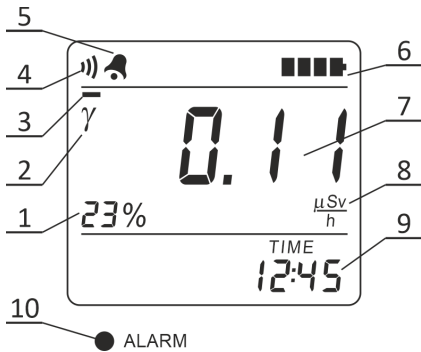

Figure 2.1 – LCD of the radiometer
Irrespective of the chosen operating mode, the radiometer carries out a non-stop control of batteries status. The results of control are displayed on the LCD with a battery status symbol  (6) (Figure 2.1), which consists of four segments.
2.3.3.6.5 The following information is displayed on the LCD of the radiometer (Figure 2.1):
- estimated limit of the expected relative statistical deviations (1) of the measurement result (7) with a confidence probability of 0.95, hereinafter - the estimated limit of statistical deviations;
- "γ" symbol (2) – an indication of the measured radiation type;
- instantaneous value indicator of the radiation intensity (3);
- sound symbol (4) (if audio signaling of detected gamma quanta is switched on);
- alarm clock symbol (5) (if the alarm clock is on);
- battery status symbol (6);
- measurement result (7);
- dimension of measurement result (8) $\mu\text{Sv/h}$, mSv/h or cps ;
- current time (9).
2.3.3.6.7 If the measurement results exceed the alarm threshold level, the radiometer sends a two-tone sound signal and starts blinking with the red ALARM LED (10). Measurement results start blinking on the LCD of the radiometer. Periodic and gradual (from left to right) highlighting of the sound symbol segments (4) serves as an indication of the threshold level exceeding as well (Figure 2.1).